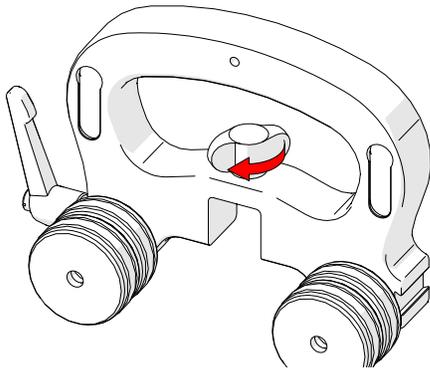

Fig. 23 - Loosen wing knob
1. Loosen the wheel block with handle wing knob (Fig. 23)
3. Loosen the wheel block with handle wing knob (Fig. 23).